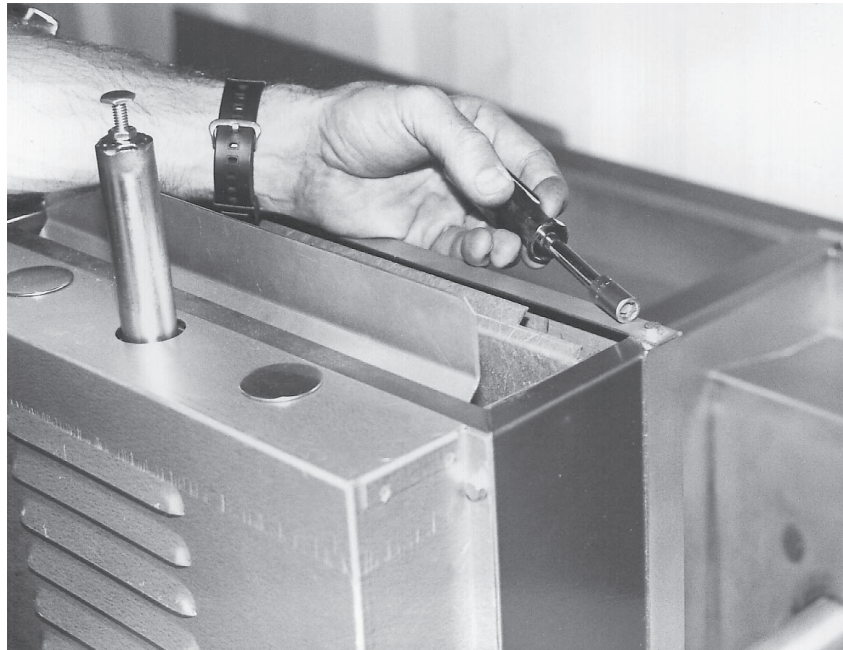

Fig. 89
4. With $\frac{5}{16}$ " socket, remove (2) screws at the top of the flue box. (Fig. 89)